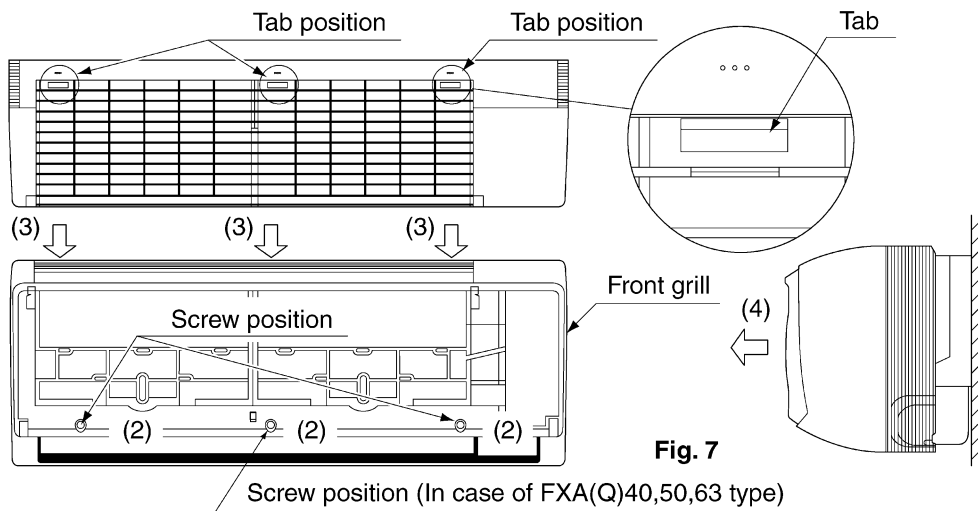

Fig. 7
- Remove the front grill. (Refer to Fig. 7)